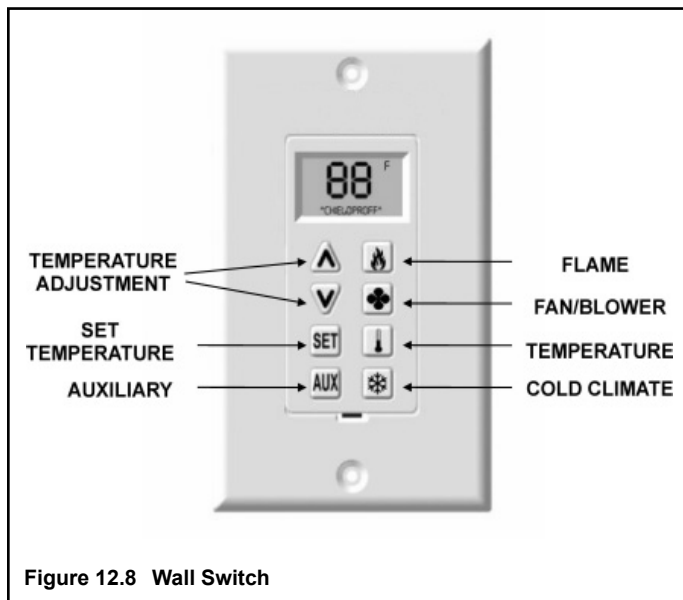

Figure 12.8 Wall Switch
- Press flame button once (see Figure 12.8); fireplace will light with flames on high.
- Turn solenoid clockwise to increase pressure, counterclockwise to decrease pressure until manifold pressure on high is 3.5 in. water column for natural gas (NG), 10.0 in. water column for propane (LP).
(Refer to Figure 12.8.)